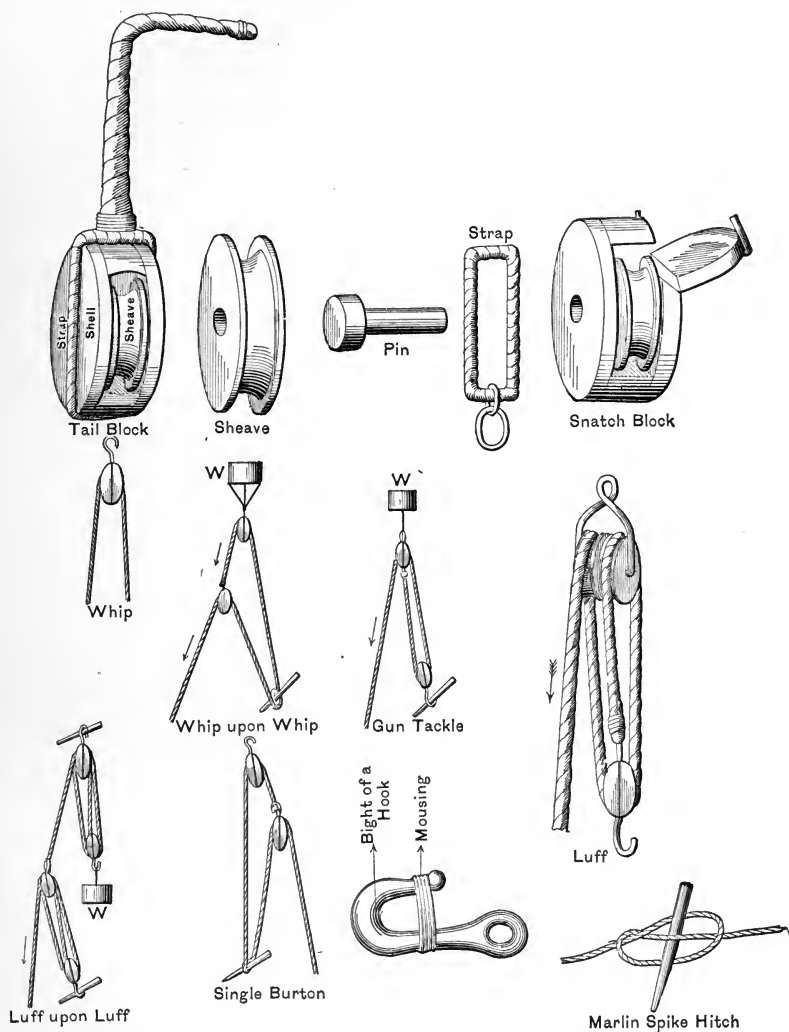

FIG. 49.
A. The shell, sheave, pin, and strap. (See Fig. 49.)
A. Single blocks have one sheave; double, two; treble, three. A tail-block is a single block strapped with an eye-splice and having a long end by which to make the block fast temporarily. A snatch-block is a single block having a notch in one cheek to receive the bight of a fall. (See Fig. 49.)
A. A rope through a single block. (See Fig. 49.)
(See Fig. 49.)
A. A rope passed through two single blocks and made fast to one. (See Fig. 49.)
A. A rope hove through a single and a double block and made fast to the single block. (See Fig. 49.)
A. A luff-tackle on the fall of another luff. (See Fig. 49.)
A. A seizing around a hook to prevent it from spreading or unhooking. (See Fig. 49.)
A. The middle of a bend of a hook. (See Fig. 49.)